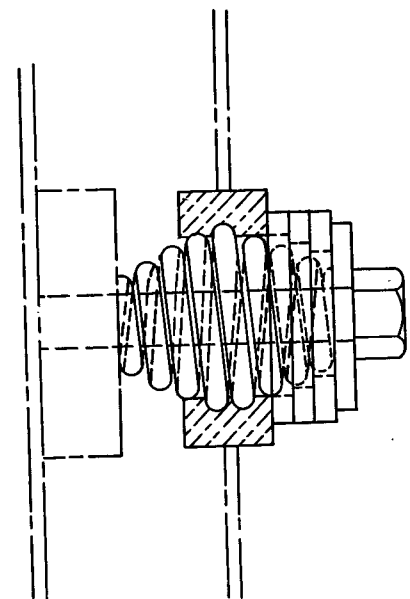

FIG. 6
Inertaire equipment usually is shipped separate from the transformer tank and consists of: (1) The reducing valve and high pressure gauge assembly (2) one operating nitrogen cylinder for RB and two for RV Inertaire, (3) two short copper tubes which connect between the cabinet and the tank, (4) four anti-vibration mounting pieces, Fig. 6, (5) the cabinet with all other parts of the equipment mounted in it.
In mounting the cabinet on the Transformer, the four springs are first screwed into the bushing in the back of the Inertaire cabinet until they are centered (equal projection inside and outside of bushing). Next put the bolts, with the washers and gaskets in place, through the springs and screw them into the pads on the transformer tank. The bolt should be tightened until the spring is slightly compressed and the gaskets touch the spring bushing. See Fig. 6.